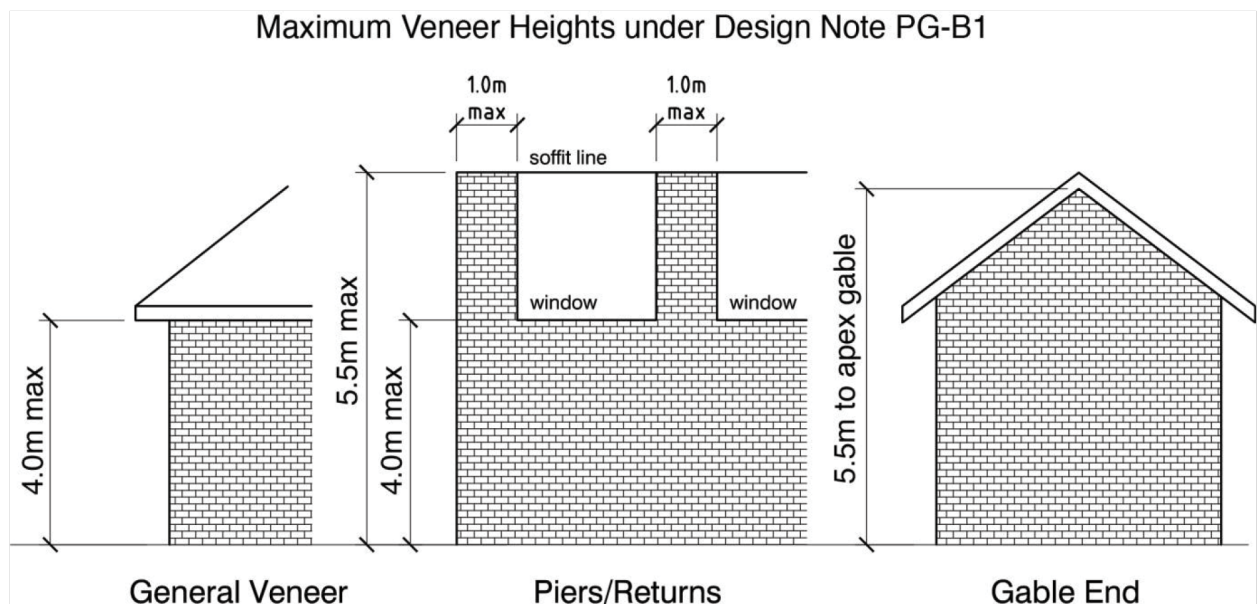

Figure 1 – Maximum veneer heights for single storey, stack-bonded construction
- Maximum veneer height of 4m for straight vertical panels and 5.5m to the apex of a gable or a pier as defined in this document (Refer to figure 1).